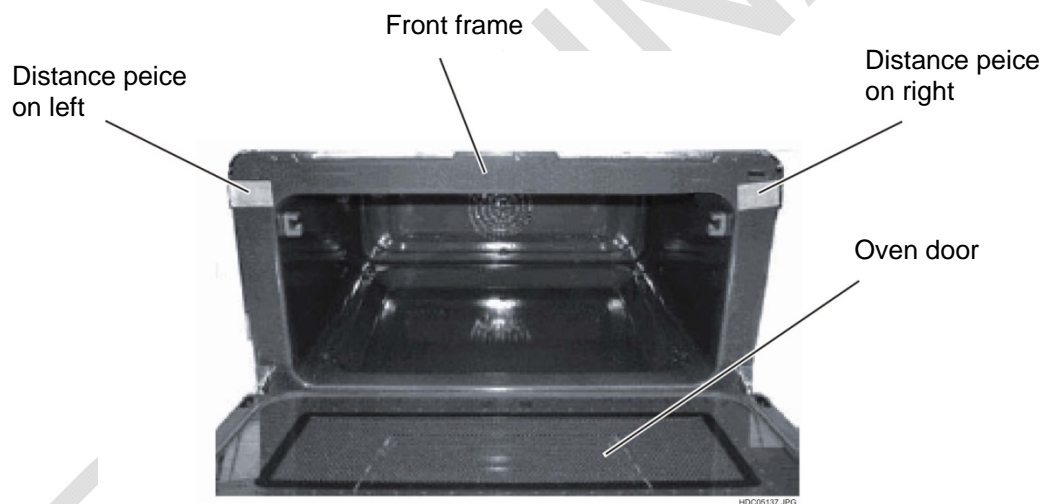

Fig. 27
Put distance piece on the front frame, left and right (see Fig. 27).
1. Put 2 x 0.5 mm = 1.0 mm distance plates on the front frame (see Fig. 27).